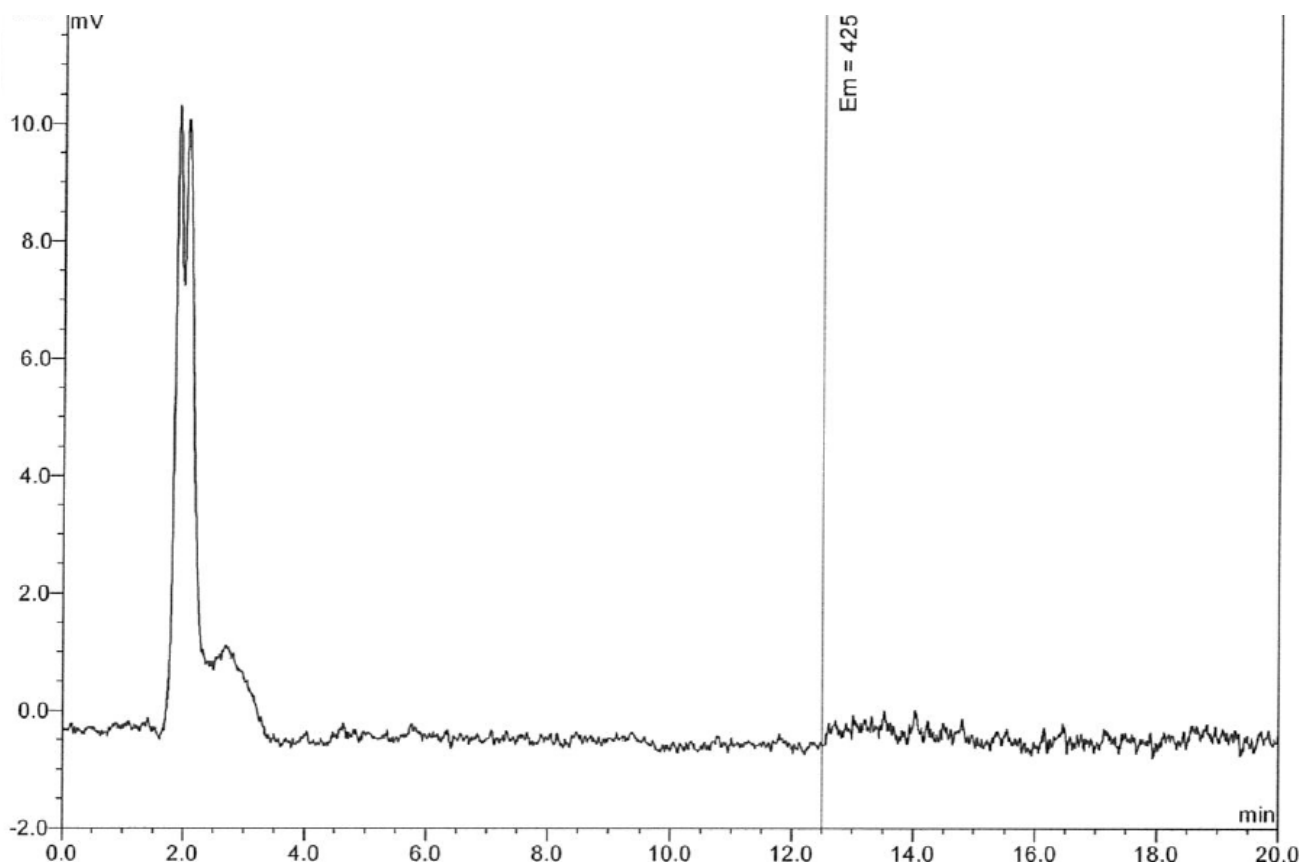

Fig 8. No Peaks Obtained in Chromatogram
- If no peaks are observed on the HPLC chromatogram it is probably not the KOBRA® CELL that is at fault (Fig. 8). There may be a problem with a component of the HPLC system or with the standards used.